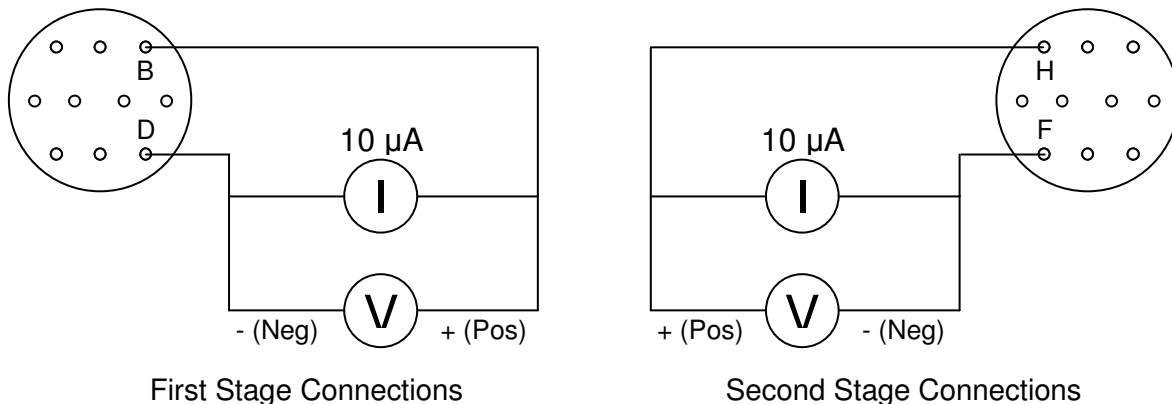

Figure 18 Check the Dual Silicon Diodes
1. Connect the positive side of a 10-microamp DC current source to pin B of the diode connector. Connect the negative side to pin D. See Figure 18.
3. Connect the positive side of a 10-microamp DC current source to pin H of the diode connector. Connect the negative side to pin F. See Figure 18.